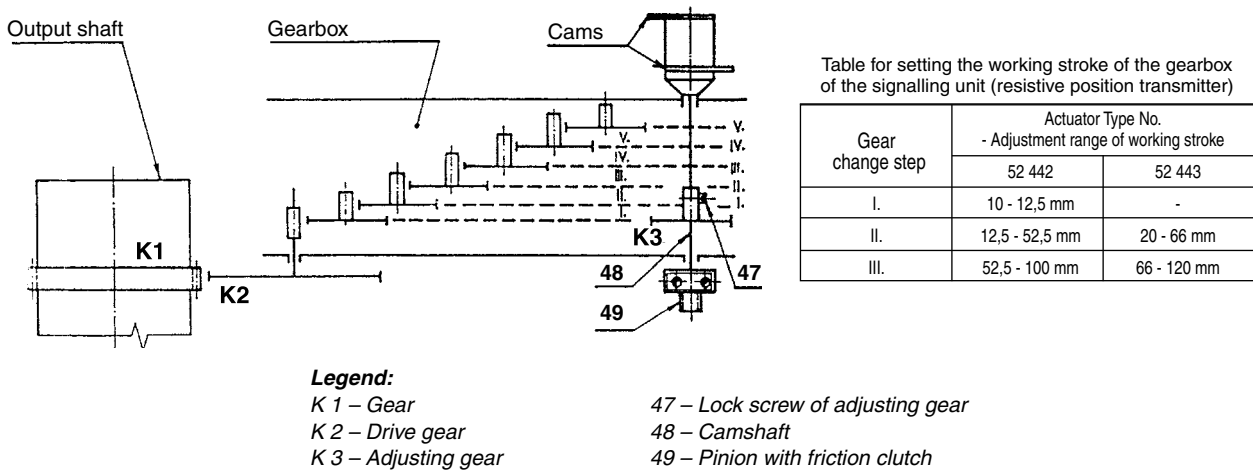
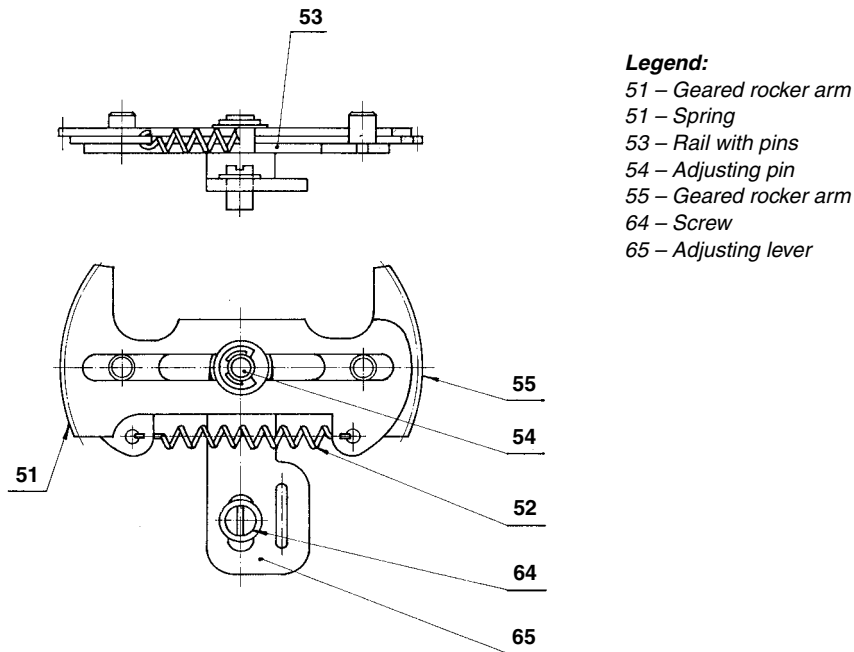
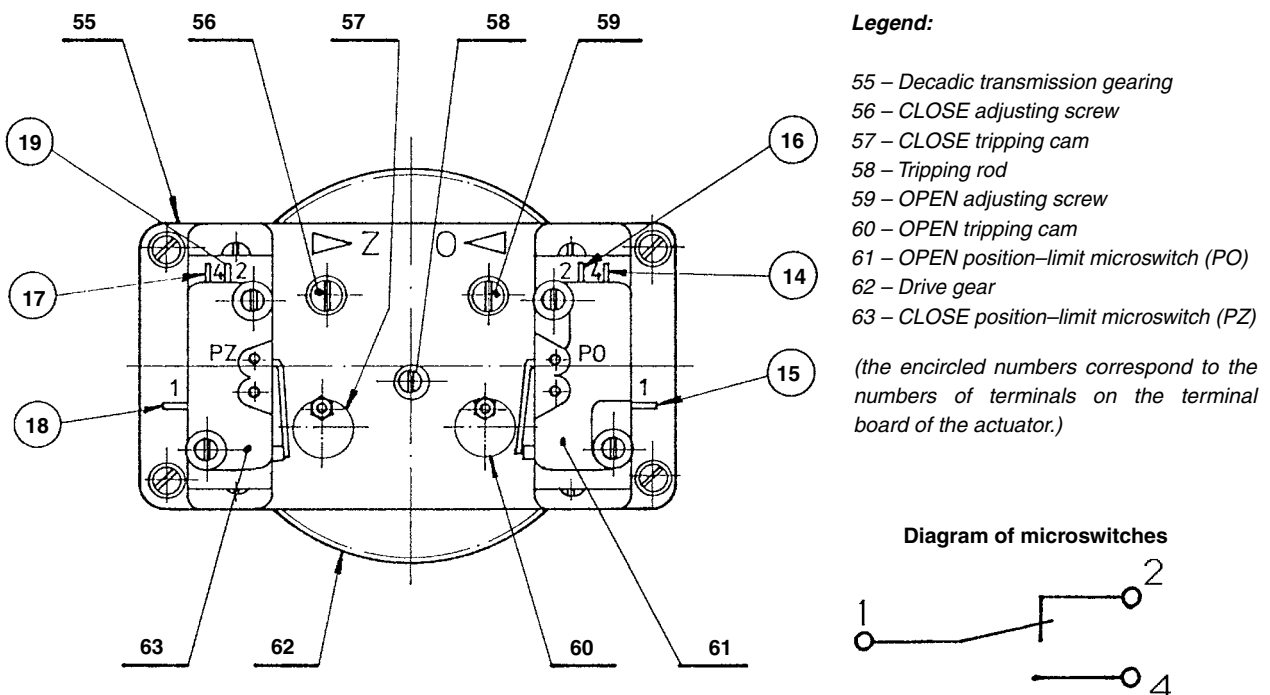

Fig.5 - Kinematic diagram of gears (version with resistive position transmitter)
Fig. 8 - Adjusting mechanism of the resistive transmitter
Fig.10 - Position-limit switching unit
This unit transmits an electrical signal to indicate the position of the output shaft of the actuator, drive of the unit being provided via gear wheel 38 by the output shaft through a multistage gearbox to the cams 30 and 31 which control the OPEN signalling microswitch 36 (SO) and the CLOSE signalling microswitch 37 (SZ). The instant of operation of the signalling switches can be selected at any point of the working stroke of the actuator except the narrow band about the end positions. (The signalling switch should close before the position-limit switch while the output shaft is still moving). The upper cam 37 operates in the CLOSE direction, whilst the lower cam 36 operates in the OPEN direction. Designed as an independent assembly unit, the signalling unit has been assembled on the support 39 under which there are gears arranged as shown in the kinematic diagram of the Fig. 5. This gearing has been assembled so that the adjusting wheel K3 can be moved to different levels designated I, II and III after loosening of the lock screw 47. In this way, the range of adjustment of the signalling switches and the position transmitter can be changed, depending on the working stroke of the actuator. Fig.6 is a table showing the ranges of adjustment for the individual positions of the adjusting wheel K3.
If the ranges of adjustment of the signalling switches and the transmitter are required to be changed the position of adjusting wheel K3 should be changed. For this purpose, the signalling unit should be partially withdrawn from the control box (which is possible due to a sufficient length of lead-in wires of the microswitches). This can be done after removal of the 3 screws 66 (Figs 2 and 2a) used for mounting the unit onto the base plate. After the signalling unit has been adjusted to the required range it should be brought back into its original position. Before retightening the screws 66, the correct meshing of gears K1 and K2 should be checked (see Fig. 5). Put on at the lower end of the camshaft 48 (Fig. 5) is the pinion 49 (Fig. 5) which is connected to the shaft 46 by an adjustable friction clutch. On this pinion, the motion required for driving the potentiometer position
c) Adjusting mechanism of the transmitter (Fig. 8)
This mechanism consists of 2 geared rocker arms 51 and 55 on which spring 52 is hung. A rail with pins 53 provides for mutual sliding movements of the two rocker arms. This group turns on pivot 54. The whole mechanism is mounted onto the basic control plate 67 (Fig. 2 and 2a). The geared rocker arms are in mesh with pinion 43 of the transmitter (Fig. 10) and pinion 49 (Fig. 5). Then, the position of pivot 54 determines
For position adjustment of the transmitter, the procedure is the following: In the CLOSE position of the output shaft, press down the geared rocker 51 (Fig. 8) to move it towards the transmitter out of engagement with the pinion 49 (Fig. 5). Then, turn the rocker clockwise up to the stop formed by a column under the signalling unit. Finally, bring the rocker into engagement with the pinion 49, whereupon the transmitter pointer should indicate 0° . If this is not the case, withdraw the rocker 51 from the stop and depress the rocker 55 to release the position transmitter pinion. Set the transmitter pointer near the transmitter scale division line 0° so that, after bringing the rocker 55 into engagement with the position transmitter pinion, their teeth fit into one another correctly. This can be checked by carefully turning the transmitter shaft. Then, throw the rocker 51 out of engagement and move it up to the stop, exerting an increased force. (After the transmitter pointer has been set to 0° the pinion starts slipping). Bring the rocker 51 again into engagement with the pinion 49 (Fig. 5). In this position, the oval holes in the geared rockers are parallel with the oval hole in the basic control plate 67 (Figs 2 and 2a). Thus, the transmitter has been adjusted for the CLOSE position.
Then, loosen the screw 64 (Fig. 8), move the adjusting lever 65 towards the transmitter up to the stop and retighten the screw 64.
f) Position-limit switching unit (Fig. 10)
If the cams are in the position shown in Fig.10 before they are adjusted, or the cam has already pressed down the button of the microswitch, the following procedure is used to advantage: